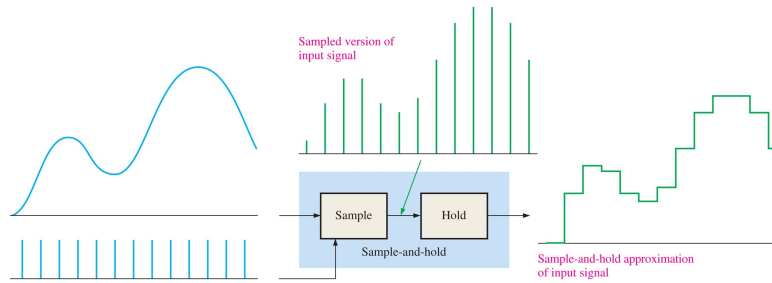

Figure 1: Simple picture of the sample-and-hold step in analog-to-digital conversion.
1. **Analog-to-digital conversion** (ADC) is a 2-step process by which analog signals are converted to digital data in digital circuits. The first step is depicted in Fig. 1 (top left, top right). In a **sample-and-hold** operation, the continuous signal is mixed with *sample pulses* emitted at rate equal to the sampling frequency. (Fig. 1 (top left)). The mixed sample pulses then cause a latch to *hold* the voltage value for the duration of the sample, $\Delta t = f_s^{-1}$ (Fig. 1 (top right)). (a) If Δt is $1 \mu s$, what is the sampling frequency? (b) What is the Nyquist frequency?